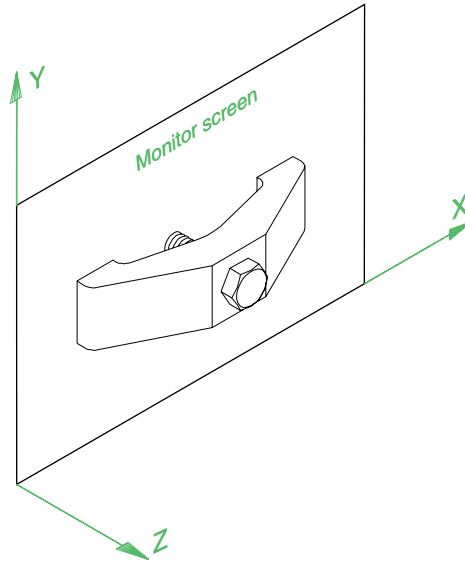

Fig. 1.20 A 3D model drawing showing the X,Y and Z coordinate directions
3D coordinates include a third coordinate (Z), in which positive Z units are towards the operator as if coming out of the monitor screen and negative Z units going away from the operator as if towards the interior of the screen. 3D coordinates are stated in terms of x,y,z . The coordinate point $x,y,z = 100,50,50$ is 100 units to the right of the origin, 50 units above the origin and 50 units towards the operator. A 3D model drawing as if resting on the surface of a monitor is shown in Fig. 1.20.